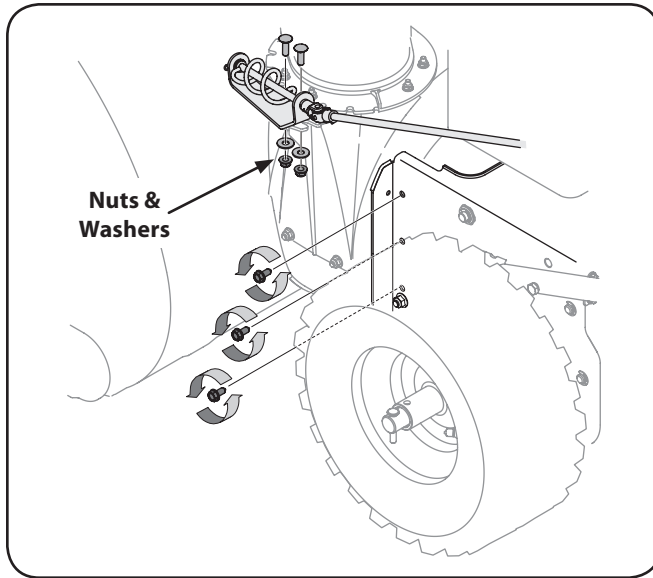

Figure 8-1
1. Remove the chute crank assembly bracket by removing the nuts and washers shown in Fig. 8-1.
4. From both sides of the frame assembly, use a 1/2" wrench to remove the three hex tap screws securing the transmission frame to the auger housing assembly. Refer to Fig. 8-1. NOTE: Do not remove the lower hex flange lock nut on each side.